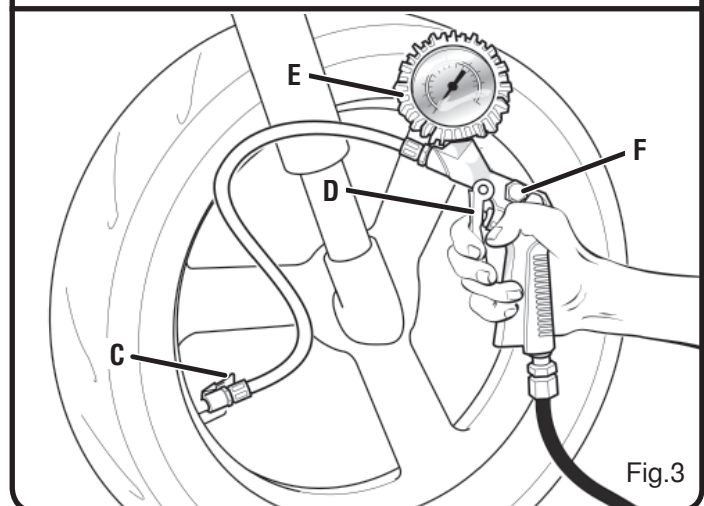

Fig.3
- 3) Press the tire inflating lever (D) (Fig. 3). Release the lever and read the pressure reached on gauge (E) of the gun. Repeat the operation until the pressure required is obtained. In the case of over-inflation, press button (F) to reduce inflation pressure.